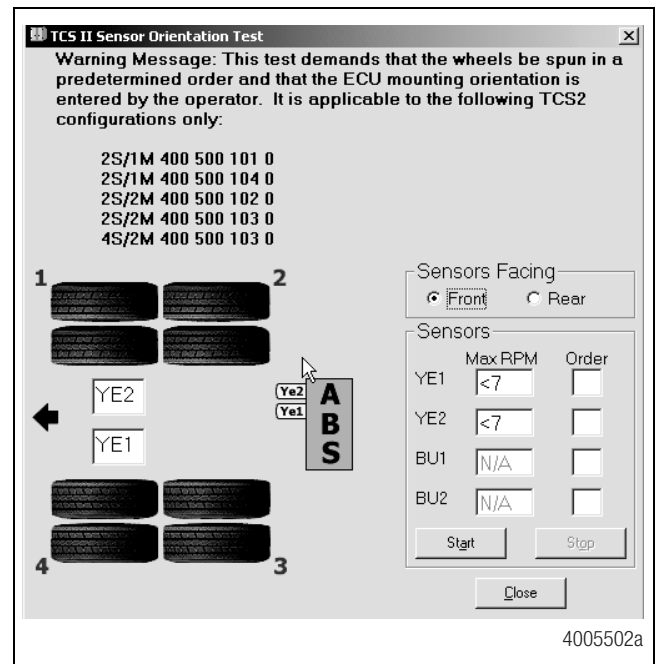
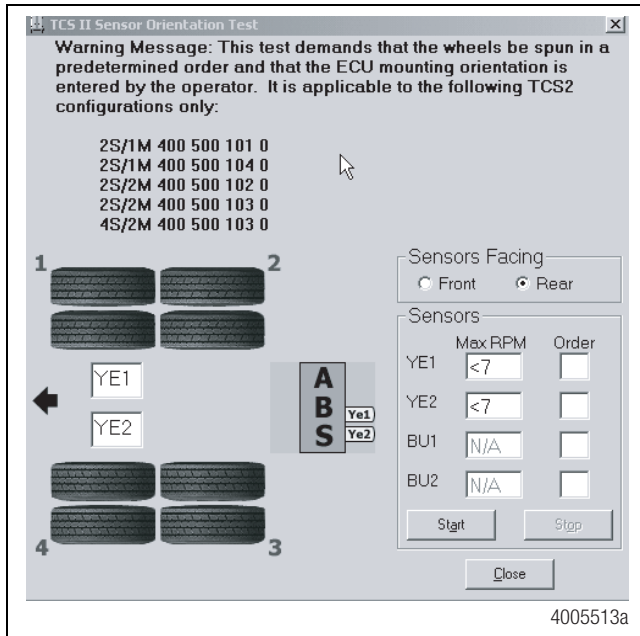

Figure 15
Figure 16
4. At the **Trailer Main Menu**, click on **Component Test**, then select **Sensor Orientation Test** to display the **Sensor Orientation Test** screen. Figure 15.
Refer to Figure 15 and Figure 16 for illustrations of the ECU mounted with sensors facing forward and rear. The correct mounting orientation must be selected prior to starting the test.
- Follow the screen prompts, starting with 1, to rotate each sensed wheel end at a rate of 1/2 revolution per second. This rate equals a wheel speed of approximately 4 mph (7 kph). As each sensed wheel is rotated, check the color of the sensor identification block on the screen for results. Sensor identification boxes are located in the bottom left portion of the **Sensor Orientation Test** screen. Figure 16.
- Verify there is sensor output. If there is no sensor output, verify that a tone ring has been installed and that the sensor is pushed all the way in against the tone ring. Perform the necessary repairs and repeat the test. If the problem persists, contact Meritor WABCO (800-535-5560). Sensor output appears in the Sensors field located in the bottom right portion of the **Sensor Orientation Test** screen. Figure 16.